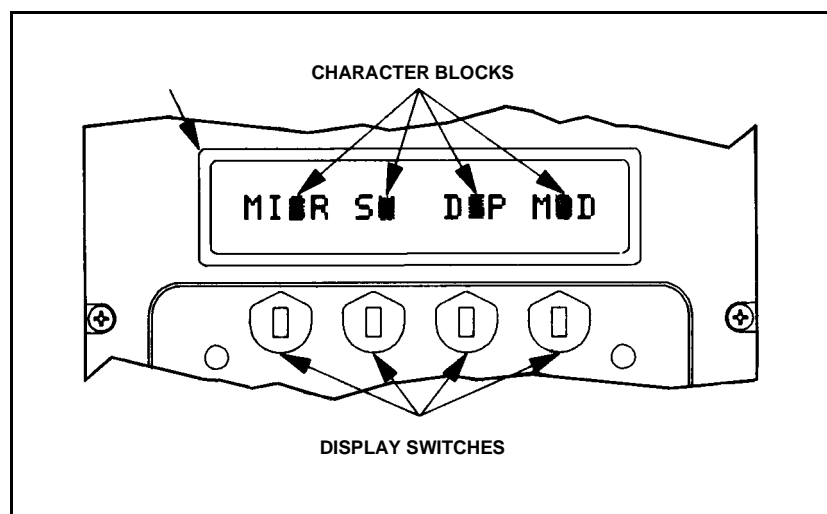

Figure 6-7. Display switches.
f. **Display Switches** (Figure 6-7). The display area displays up to 16 alphanumeric characters. The flashing character blocks signal a need for an operator action. To respond, the operator presses the display switch below the flashing block or the SEQ switch. Any combination of blocks (or none) may flash. If no block is flashing, there is no action required, and the operator cannot change what is shown on the display.